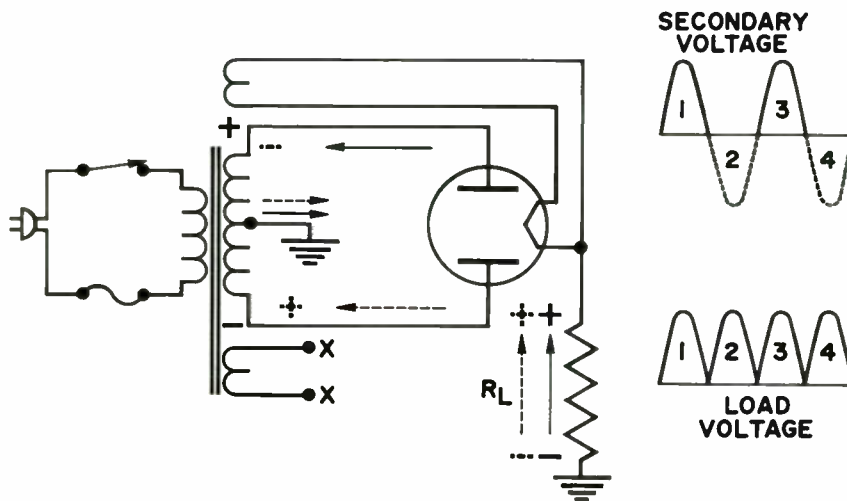

Figure 11 — Complete full-wave rectifier.
**Practical Full Wave Rectifier Circuit** The schematic diagram in Figure 11 illustrates a typical full-wave rectifier circuit using a twin diode rectifier. Two separate diode plates and a common directly heated cathode are sealed in a single glass envelope in order to conserve space and material. The load resistor  $R_L$  is connected between the center tap of the high voltage secondary and the filament type cathode. Notice that the metal chassis is used to complete the circuit between the load resistor and the center tap. This use of the chassis to form a common ground connection is frequently used in many types of electronic equipment in order to simplify the wiring. The additional secondary winding (X, X) on the power transformer is intended to supply heater voltage to other tubes in the equipment served by the power supply.